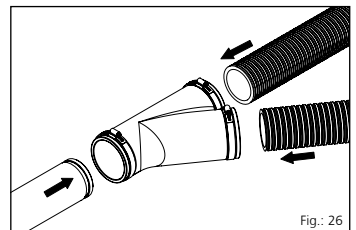

Fig.: 26
- 1 Release mounted clamping straps and insert smooth or corrugated cable ducts up to the stop in branch sleeve AMS (see Fig.: 26).